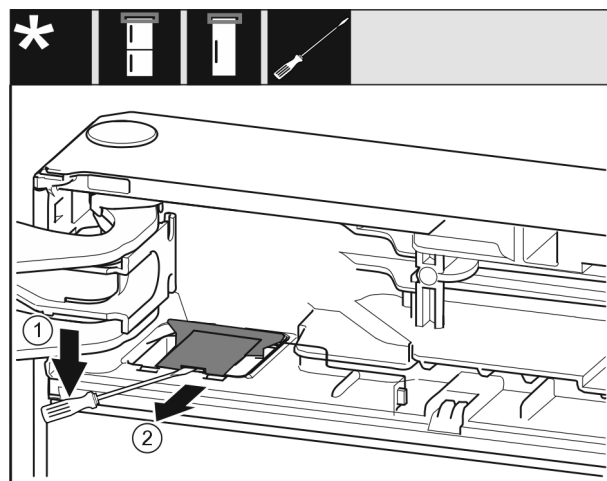

Fig. 11
- Use a screwdriver to snap out the cover Fig. 11 (1).
- Pull out the cover Fig. 11 (2).